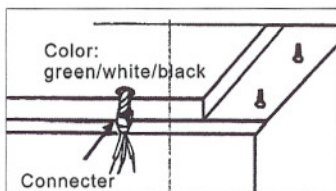

Fig.9
2. Fish the electrical power line through the access hole drilled in the wall or bottom of the cabinet. Attach an appropriate connector (purchased locally) to the end of the power line for the type of wiring being installed. Follow all codes.(Fig.9)